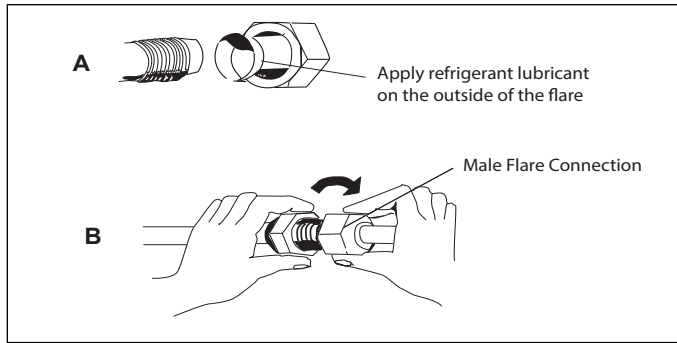

Figure 36. Making Connections (Male to Female Connection)
15. Align the threaded connections with the flared refrigerant lines. Tighten the flare nuts lightly at first to obtain a smooth match as illustrated in “Figure 36. Making Connections (Male to Female Connection)”.